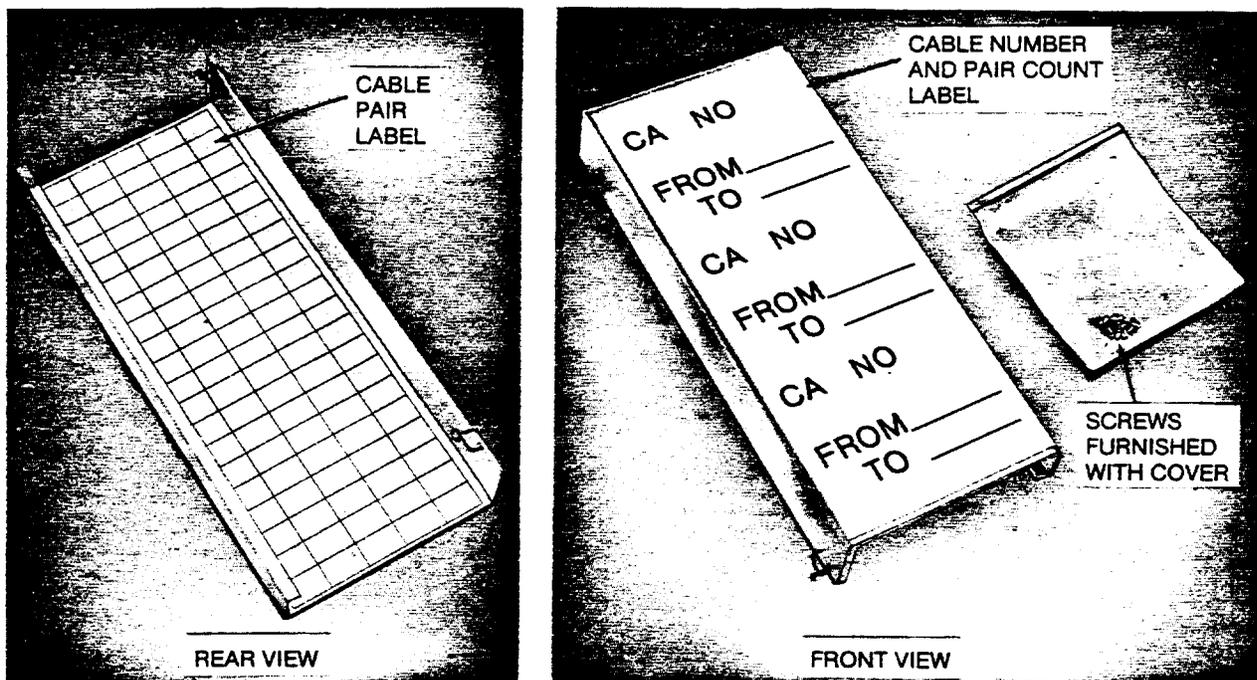

Figure 11. Safety Cover
3.11 A safety cover is available from Monarch Molding, Council Grove, Kansas, 66846, as an accessory item for the 310-type connector. The cover, Part No. SC-794, is used to identify cable and cable pairs when split cable counts occur within the 100-pair complements of the connector. Labels are furnished and attached to the cover as shown in Figure 11.